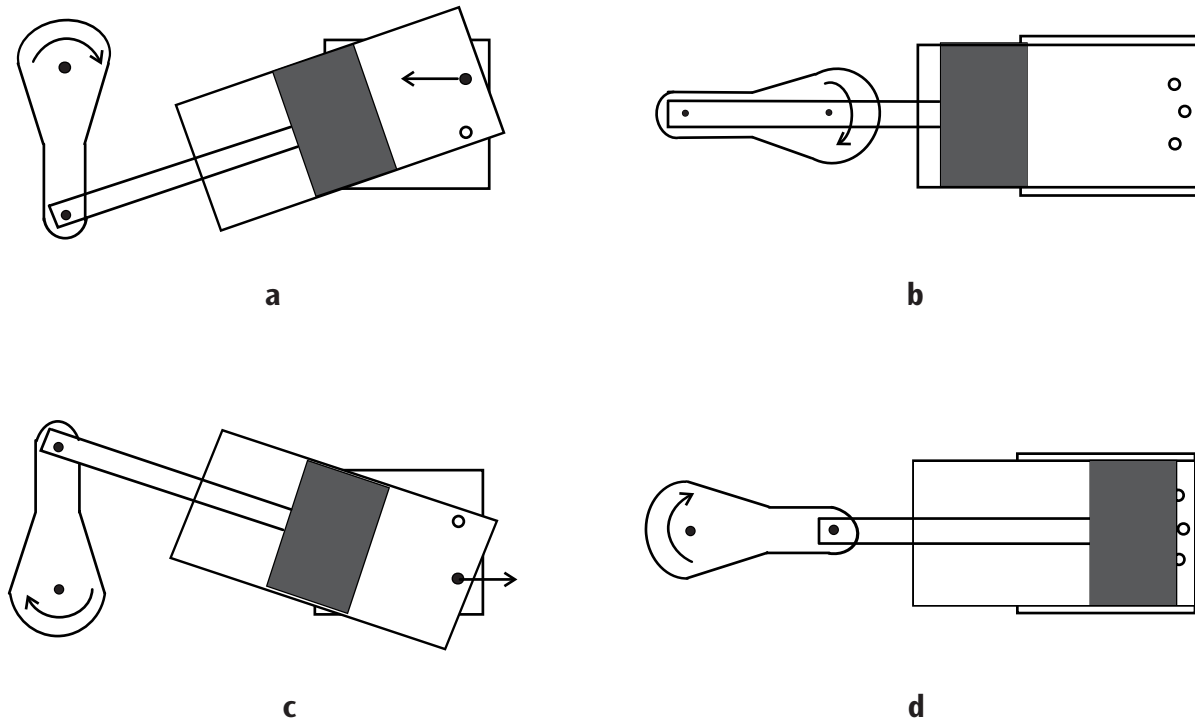

Fig. 1: Work cycle of an oscillating steam engine
Unlike a slide-valve steam-engine, an oscillating steam engine has a cylinder that rotates on a central shaft causing steam inlet and outlet ducts to open and close. Water in the boiler begins to boil, and thus steam is generated. The steam flows via the steam inlet hose 12 into the frame then through the steam inlet hole. As soon the opening of the cylinder is fed with fresh steam, steam flows into the cylinder and displaces the piston (Fig. 1, a). When the piston reaches its lowest point, the steam ducts are closed. This slack point is passed thanks to the inertia of a flywheel (Fig 1, b). In the next phase, the piston moves back, opens the steam outlet and pushes out the steam
(Fig. 1, c). The steam flows out via the exhaust steam hose ② and the exhaust steam pipe ⑯. The condensed water that accumulates drips out via the condensation hose ① into the condensation beaker ⑱.
When the piston has reached the dead point at the top, both of the steam ducts are closed again. The flywheel drags the engine past this top slack point, after which steam is once again fed in and the procedure repeats from the start (Fig. 1, d).